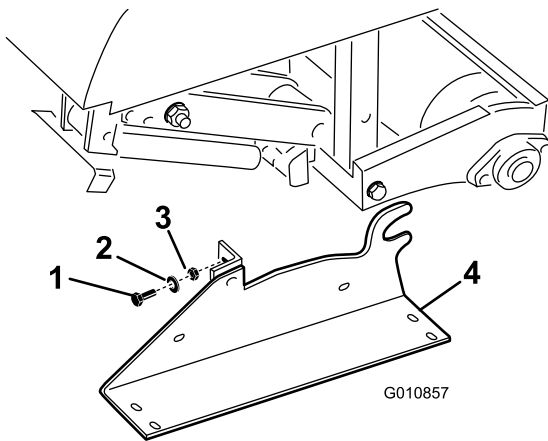

Figure 25
2. Remove the bolts, lock washers and nuts securing the storage stands to each end of the aerator (Figure 25).